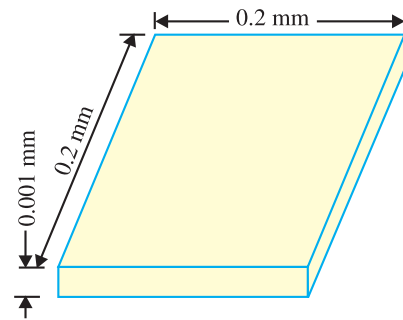

Fig. 23.1
- (ii) The size of an **IC* is extremely small. In fact, ICs are so small that you normally need a microscope to see the connections between the components. Fig. 23.1 shows a typical semi-conductor chip having dimensions $0.2\text{ mm} \times 0.2\text{ mm} \times 0.001\text{ mm}$. It is possible to produce circuits containing many transistors, diodes, resistors etc. on the surface of this small chip.